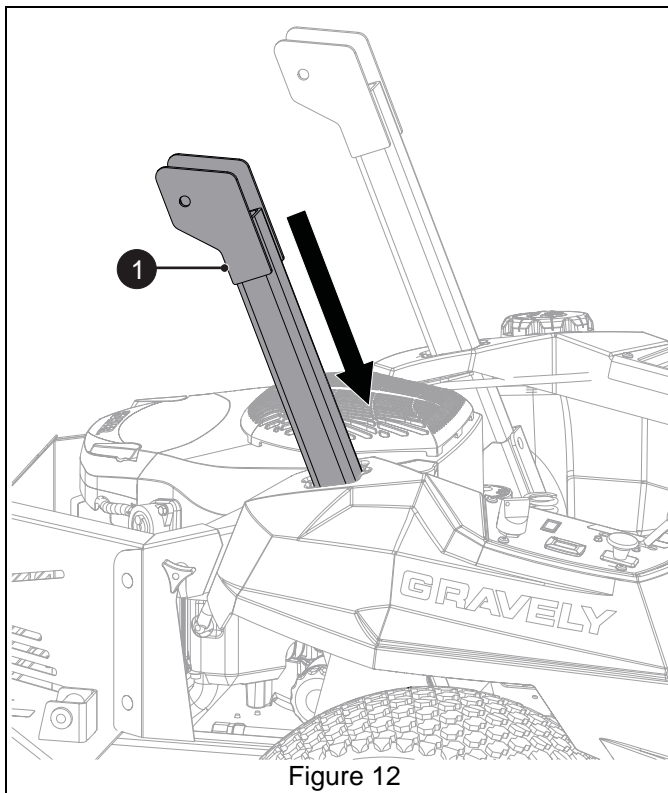

Figure 12
4. Insert bagger support (item 1) through the opening and between right support bracket and frame. Ensure that hinge plates are positioned facing the rear. See Figure 12.